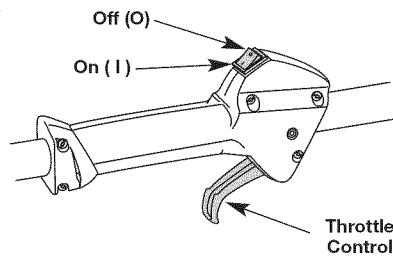

Fig. 6
**NOTE:** There is no need to turn the unit on. The On/Off Control is in the ON (I) position at all times (Fig. 6).
2. Press and hold the On/Off Control switch in the OFF (O) position until the unit comes to a complete stop (Fig. 6).
2. Press and hold the On/Off Control in the OFF (O) position until the engine comes to a complete stop (Fig. 6).